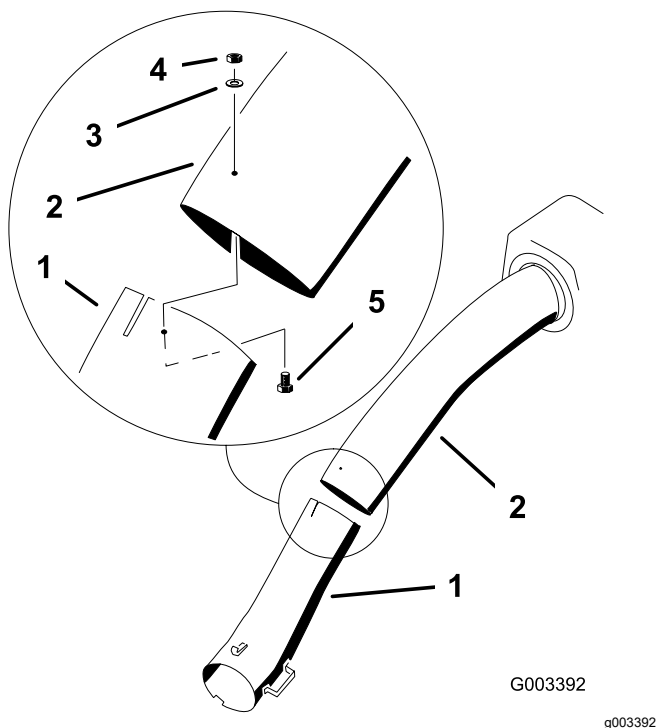

Figure 37
11. Join the upper and lower tubes with 3 bolts (#10 x 3/4 inch), flat washers, and locknuts as shown in Figure 37.